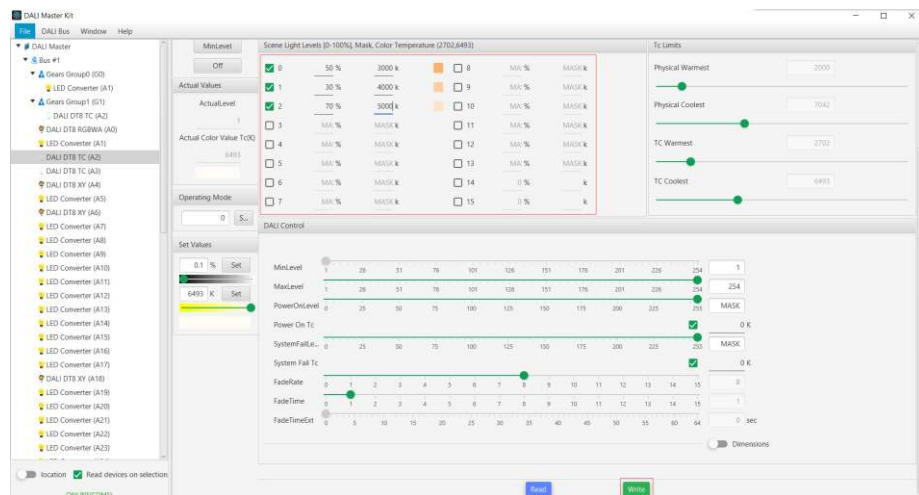

Figure 11 DALI Scene Configuration for DT8 Tc Device
4.3. For DT8 Tc device, brightness level & color temperature should be set for a DALI scene. After setting the parameters of the scenes, Click on “Write” button on bottom right of the window to write the scenes to the DALI device as shown in Figure 11.